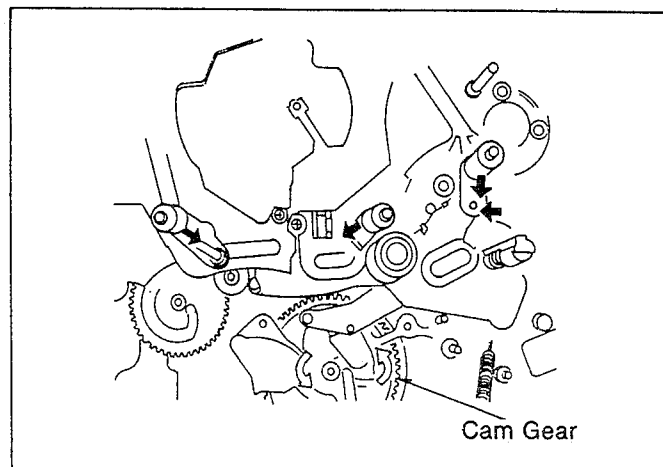

Fig. M25
- (1). Turn the Cam Gear to counterclockwise that set the Mechanism to stop position(unloading end) as shown in Fig.M25.